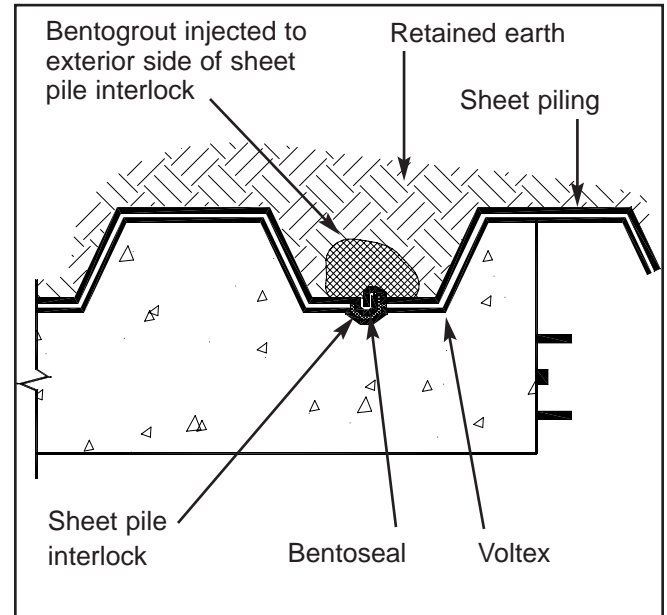

Figure 2.14 - Sheet pile interlock detail.
**Preparation:** Trowel a 1/2" (12 mm) thick layer of Bentoseal along all sheet piling knuckles. Fill voids or cavities at tie-back plates with cementitious grout or compacted soils. If excessive water is penetrating the sheet piling knuckles, Volclay BentogROUT can be injected to the outside of the knuckle to stop water flow (Figure 2.14). Consult CETCO for BentogROUT applications and installation guidelines.